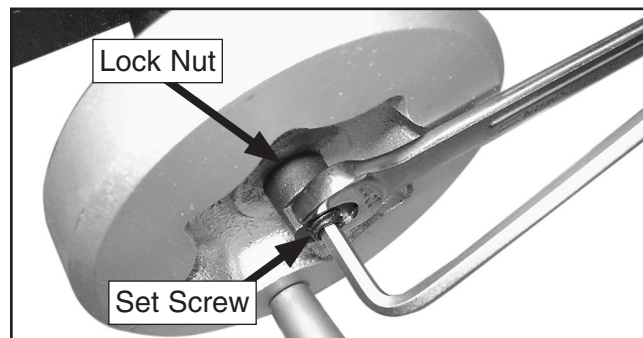

Figure 1. Securing the handwheel.
3. Hold the lock nut in position with a wrench and tighten the set screw, as shown in **Figure 1**.
2. On the opposite side of the table, push the other handwheel against the leadscrew support block, loosen the set screw (see **Figure 1**) several turns, hand-tighten the lock, then tighten the set screw.